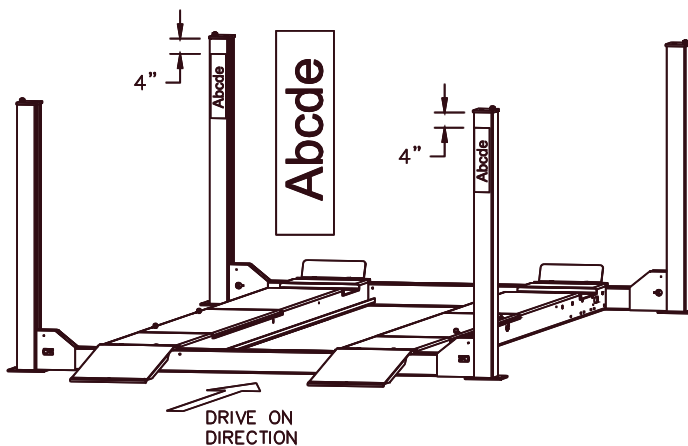

Fig 15 – Logo Decal Placement
- 45) Place a logo decal on the rear surface of both the front driver side column and rear passenger side column. Center each decal left-to-right and position 4" from top of column, **Fig 15**.